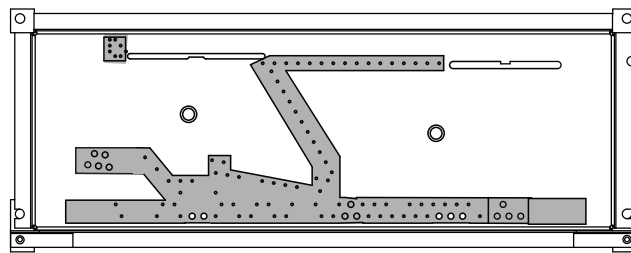

Figure 60 - Rockwool Placement
3. Pull the rock wool apart into dime-sized pieces or smaller. Distribute one thin layer of rock wool over front ports and carryover ports. Do not cover slots (400) or large holes (300) at rear of burner. *Figures 60 & 61*